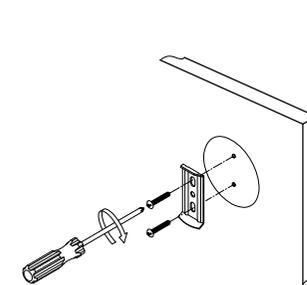

Fig. 5
- Step 4. Screw the mounting plate (with the lips facing out) to the wall with the mounting screws (fig 5). Ensure the curved end of the mounting plate is at bottom and the flat end on top before screwing on.